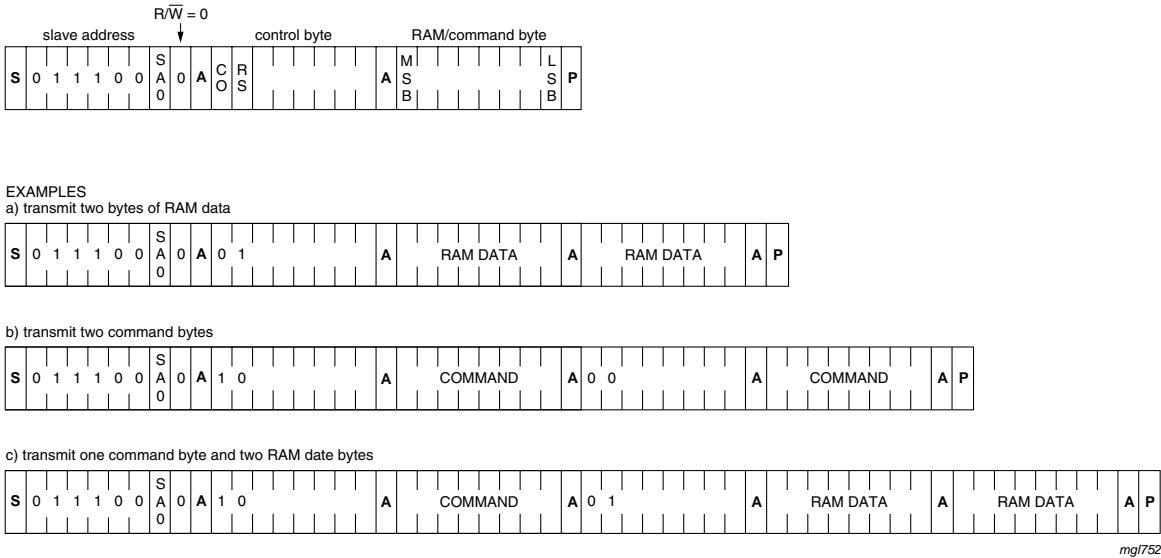

Fig 15. I²C-bus protocol
The I²C-bus protocol is shown in Figure 15. The sequence is initiated with a START condition (S) from the I²C-bus master which is followed by one of two possible PCA8534A slave addresses available. All PCA8534A whose SA0 inputs correspond to bit 0 of the slave address respond by asserting an acknowledge in parallel. This I²C-bus transfer is ignored by all PCA8534A whose SA0 inputs are set to the alternative level.